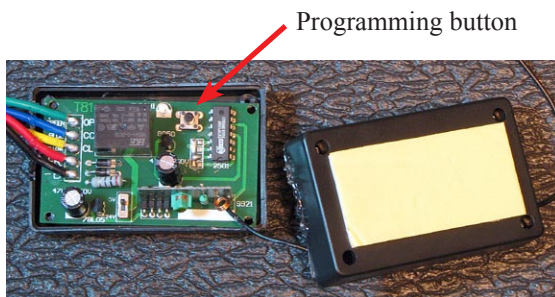

Fig. 2
6) Press and Hold the programming button shown in Fig. 2. In approximately 6 seconds the LED with light red (Fig. 4).
Apply power to the RES. Press and Hold the programming button (Fig. 2) for approximately 10 seconds. The RES's LED will flash rapidly three times to confirm that all codes have been erased.